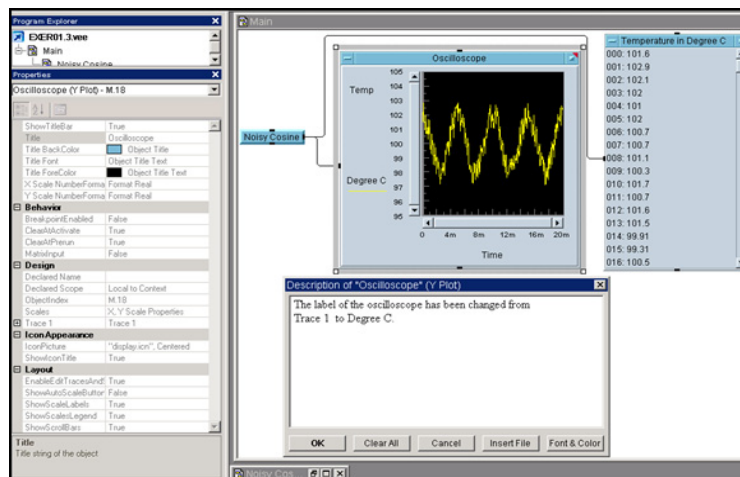

Figure 1-20 UserObject Properties window Displayed with Description Showing
- 2 Open the oscilloscope description box again. See Figure 1-20.